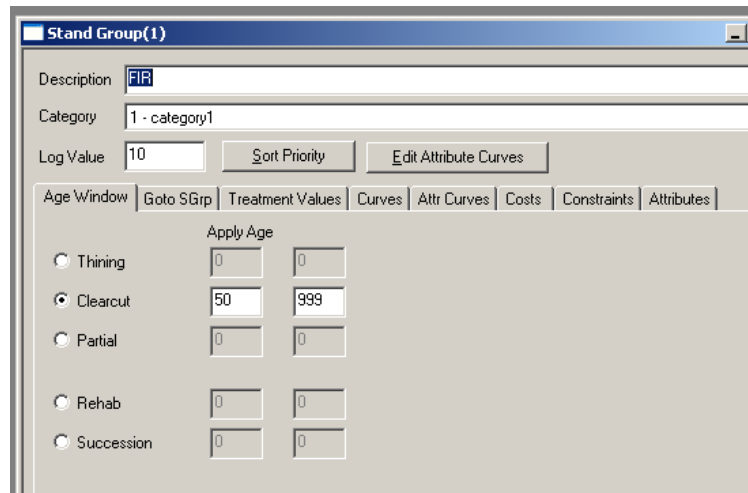

Figure 49: stand group window to allow for changes in silviculture system.
8.3.3 Select the *Age window*. The *Stand Group 1- FIR* should appear as shown in figure 49.